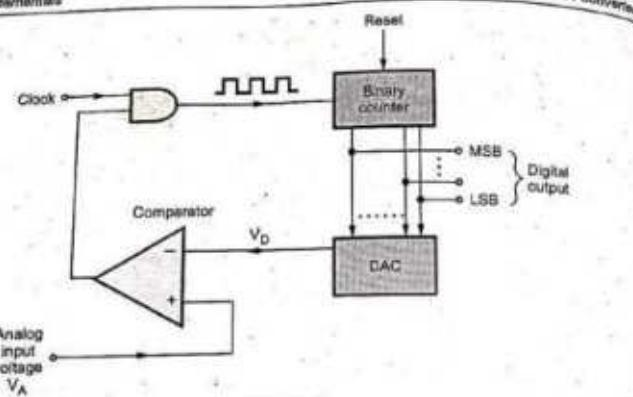

Fig. 6.8.6
- Fig. 6.8.6 shows the circuit diagram of counter type ADC.
- As shown in the Fig. 6.8.6, the counter type ADC consists of a binary counter, DAC, comparator and AND gate. The operation of the circuit is explained below.